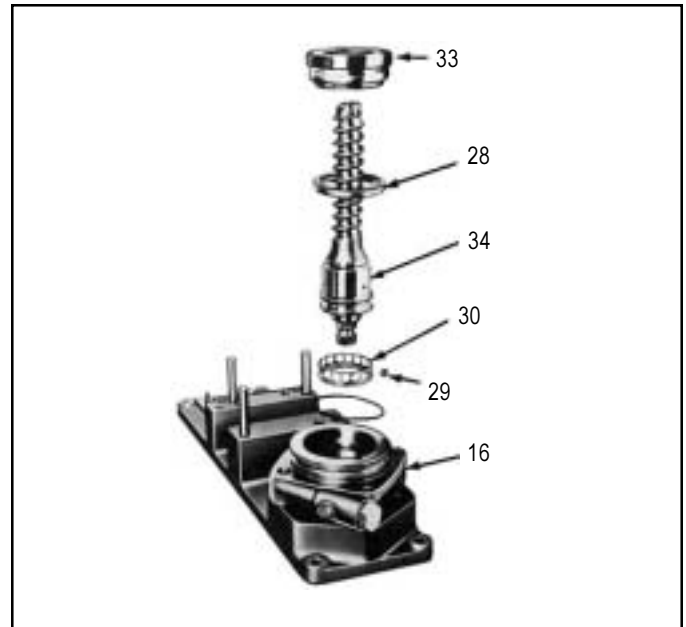

FIGURE 33
4. Install the cage(30) on the input shaft end of the spindle(34). Install the outer ball race(28) and using a lithium base general purpose grease (Ford Chassis grease ESA-M1C75-B) to hold them in place insert the 17 new balls(29) comprising the bearing. Insert the assembly into the valve body. (See Figure 33)